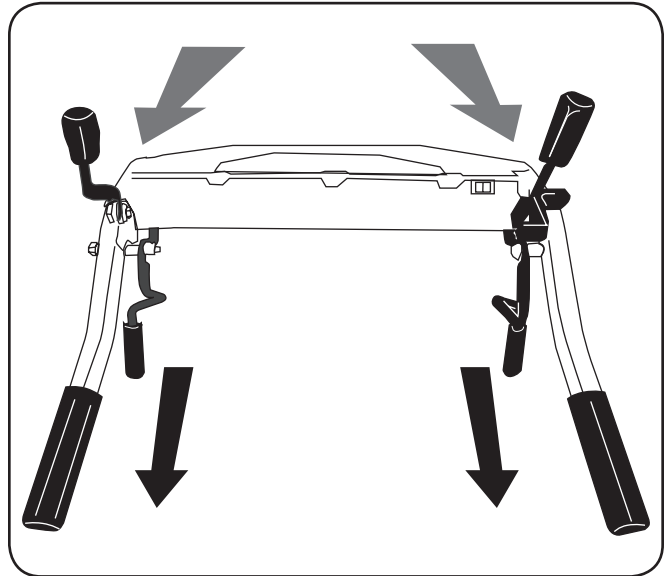

Figure 5-5
- a. Engage the neutral handle and the reverse handle, with the clutch control bail disengaged and the tines and wheels will move in reverse. See Figure 5-5. To stop the reverse motion of the tines and wheels, release the reverse handle.